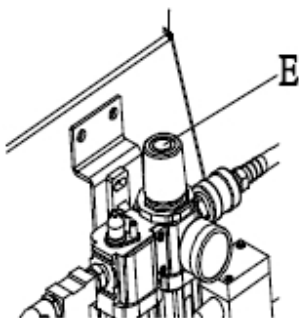

Fig. 10: Rotary handle on pressure regulating valve
Step 5: Use a crane to lift the machine from the pallet and move it to the working position (Fig. 10).
Step 2: Pull the handle E located on the air supply unit (Fig. 10).